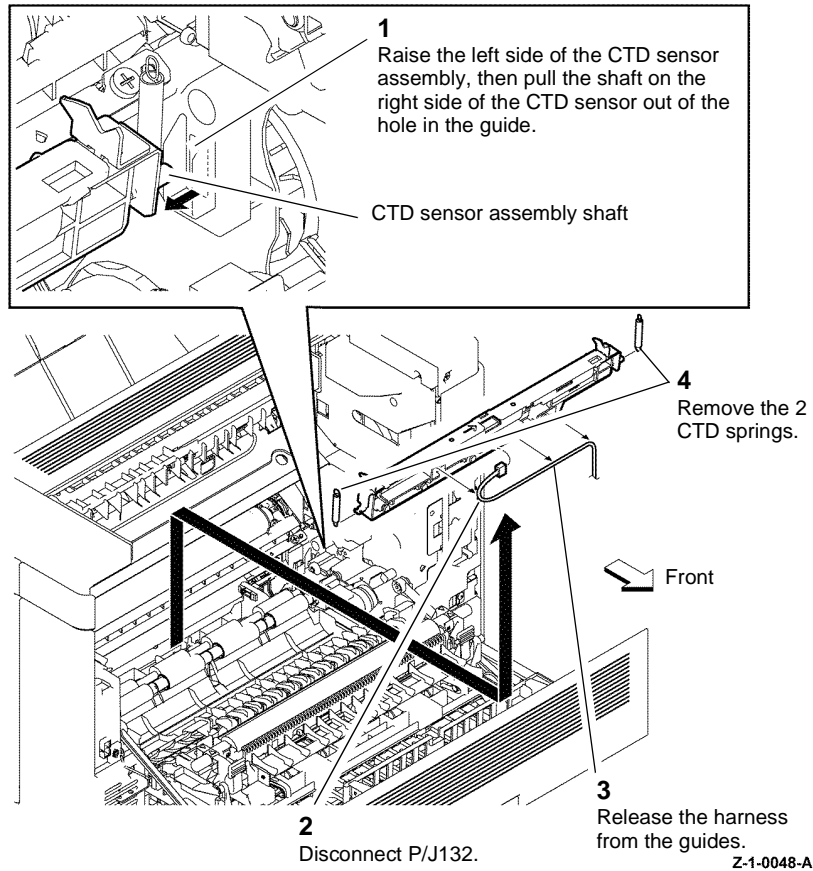

Figure 2 CTD sensor assembly
- Remove the CTD sensor assembly, Figure 2.